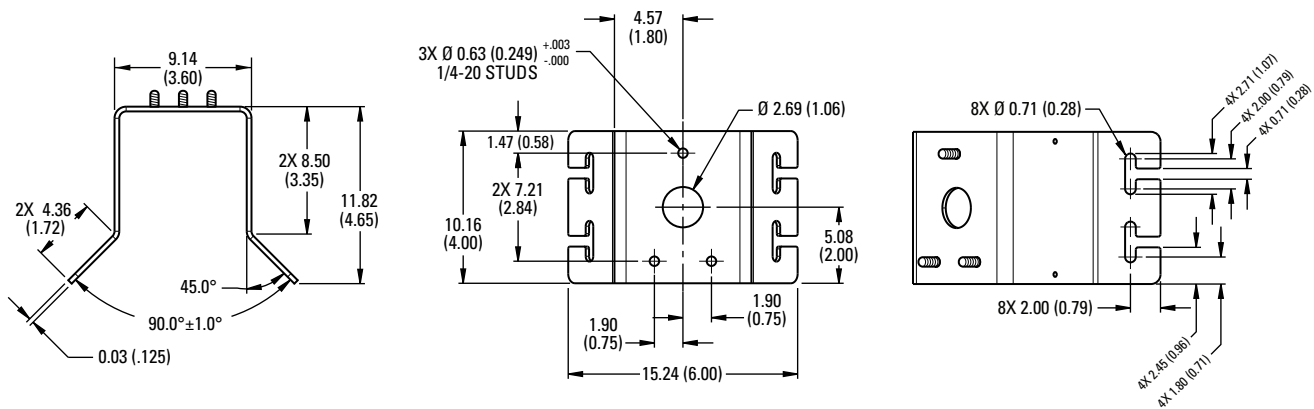

Figure 4. IMM-CM Dimensions
3. Attach and secure the WMVE-SR to the three 1/4-inch studs on the IMM-CM using the three 1/4-inch flat washers (supplied) and three nylock nuts (supplied). Refer to Figure 4.